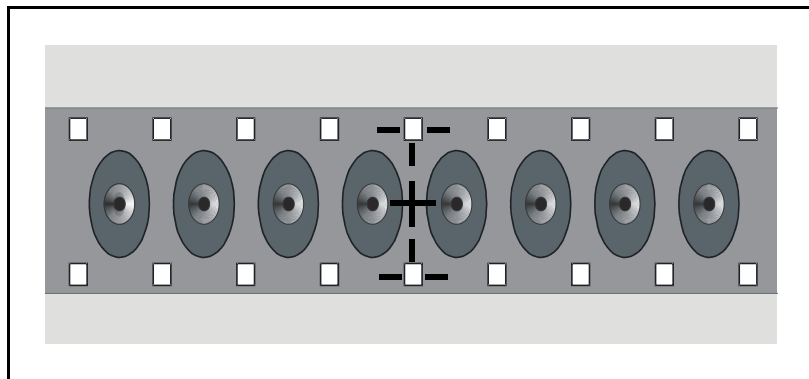
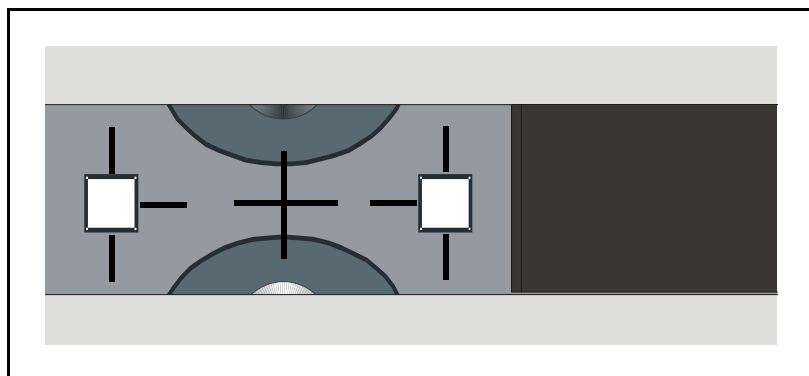

Figure 4-20. Align HYDRA reference background using HC2.
Figure 4-21. Align HYDRA reference background using LSC.
- When prompted, use the trackball to position the two small red crosses to be in the middle of the white reference points (see Figure 4-20 and Figure 4-21 for HC2 respective LSC).